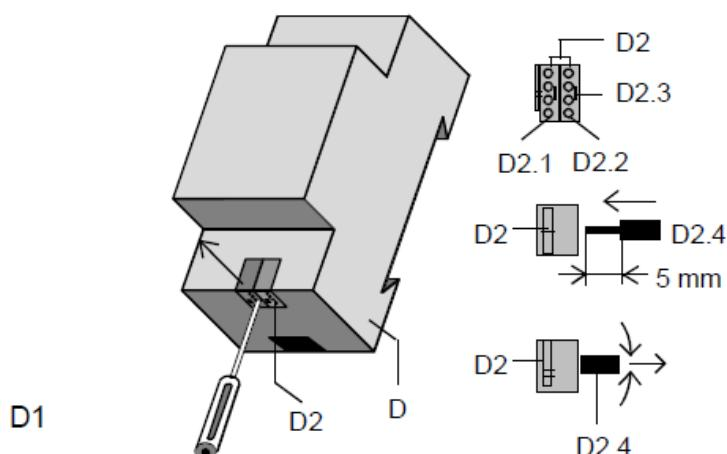

Figure 3: Connecting and disconnecting the bus wires
#### **5.4. Slipping off bus connection blocks (Figure 3)**
- The bus connection block (Figure 3, D2) is situated on the top of the device (Figure 3, D1).
- The bus connection block (Figure 3, D2) consists of two components (Figure 3, D2.1 and D2.2) with four terminal contacts each. Take care not to damage the two test sockets (Figure 3, D2.3) by accidentally connecting them to the bus cable or with the screw-driver (e.g. when attempting to unplug the bus connection block).
- Carefully put the screw-driver to the wire-inserting slit of the bus connection block's grey component and pull the bus connection block (Figure 3, D2) from the device (Figure 3, D1).
#### **5.5. Slipping on bus connection blocks (Figure 3)**
- Slip the bus connection block onto the guide slot and press the bus connection block (Figure 3, D2) down to the stop.
#### **5.6. Connecting bus cables (Figure 3)**
- The bus connection block (Figure 3, D2) can be used with single core conductors Ø 0,6 ... 0,8 mm.
- Remove approx. 5 mm of insulation from the conductor (Figure 3, D2.4) and plug it into the bus connection block (Figure 3, D2) (red = +, black = -).
#### **5.7. Disconnecting bus cables (Figure 3)**
- Unplug the bus connection block (Figure 3, D2) and remove the bus cable conductor (Figure 3, D2.4) while simultaneously wiggling it.